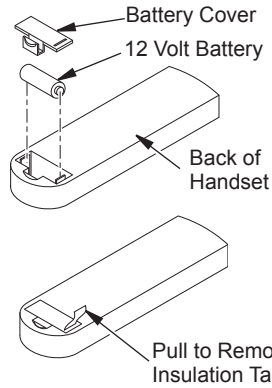

Figure 14 - Installing Battery into Back of Handset
3. Activate remote handset battery by removing insulating tab on back of handset (see Figure 14). Battery is included pre-installed.